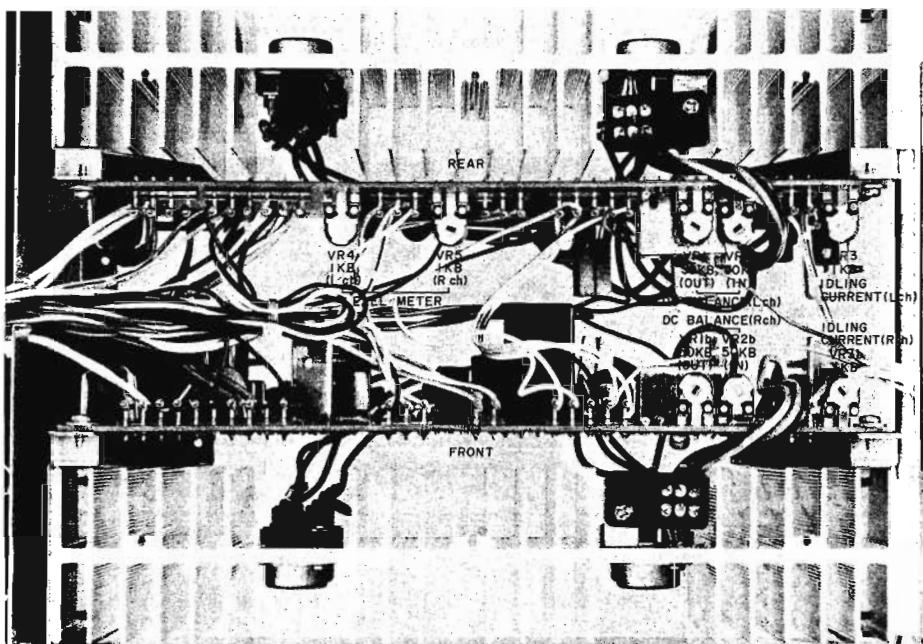
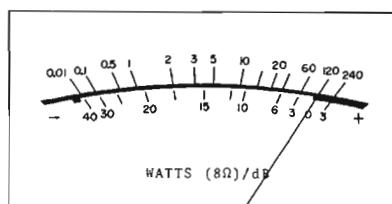

Fig. 14 Main Amp Adjust Point
Fig. 18 Level Meter
1. Idling Current Adjustment (Refer to Fig. 14, 15)
2. DC Balance Adjustment (Refer to Fig. 14, 16)
3. Level Meter Indication Adjustment (Refer to Fig. 14, 17, 18)
- 4) Now, adjust VR4 (Right) on the Main Amp P.C. board (see Fig. 14) until each POWER LEVEL meter deflects to the mark "120". (see Fig. 18)